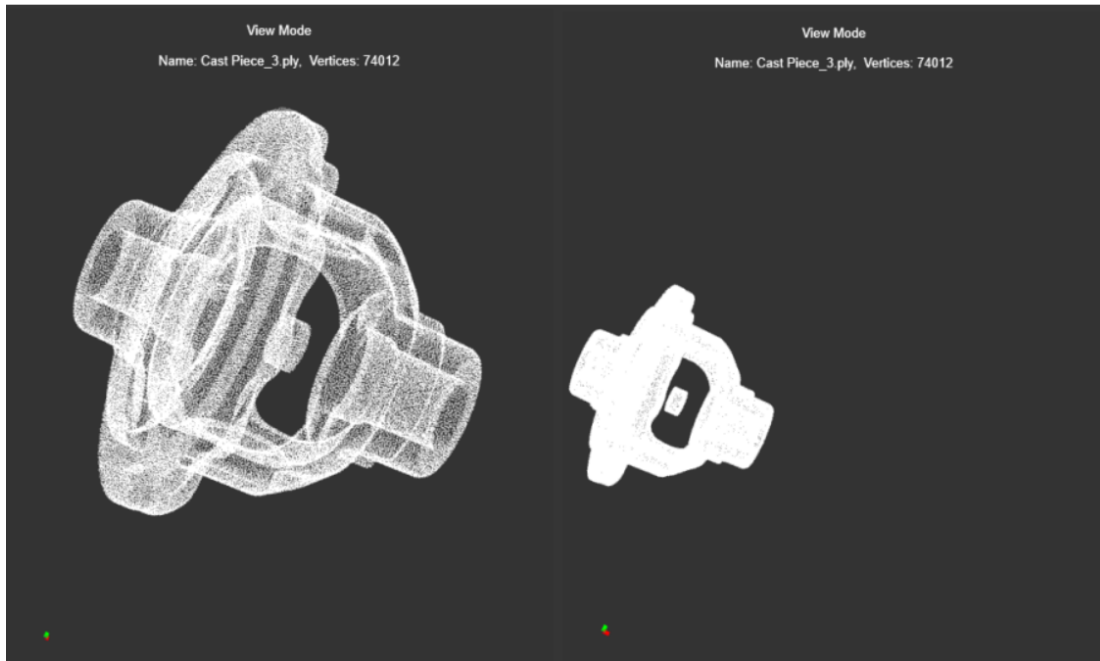

Figure 4. Scale
2. Set the scale value in the X, Y, and Z directions. By default, the option of equal values for each direction is checked. Click *Confirm* and the zoomed point cloud template will not generate a new point cloud template, only the zoomed effect will be displayed in the current template. The comparison chart before and after scaling is shown in *Figure 4*.